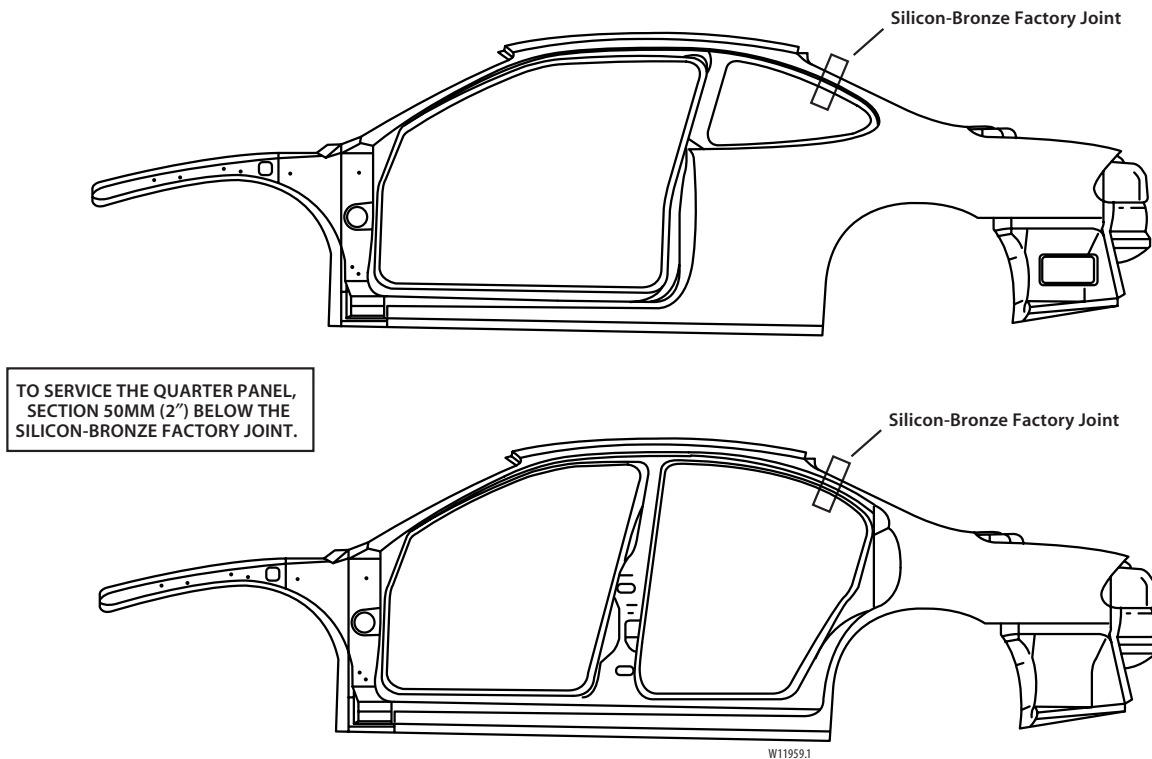

Figure 9-1:
4. Locate the factory joint at the rear roof pillar where it attaches to the door frame opening outer panel, measure down the pillar 50mm (2 inches), mark and cut the quarter panel (figure 9-1).